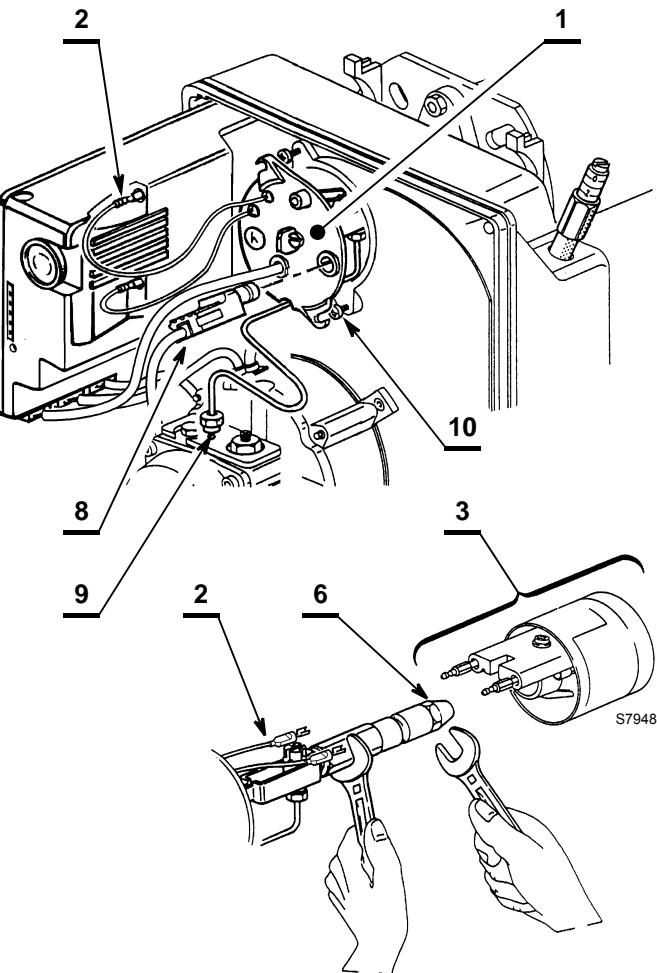

Fig. 13
### 1st Method (Fig. 13):
- remove the wires 2)(Fig. 13) from the control box, the flame sensor 8) and unscrew the nut 9) from the pump.
- Remove the wires 2) from the electrodes, loosen the screw 4)(Fig. 13) and remove the diffuser disc-holder assembly 3) from the nozzle-holder assembly 1).
### 2nd Method (Fig. 13):